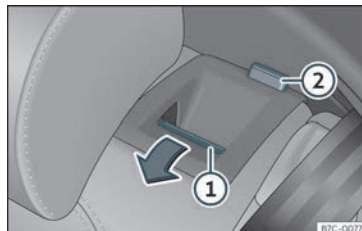

Fig. 106 Rear seat: folding the backrest.
- Press the unlock button»» **Fig. 106**  forwards and at the same time fold the backrest down. The rear seat backrest is not engaged when the red marking of the button  is visible.
The rear seat backrest is not engaged when the red marking of the button **»» Fig. 106 ②** is visible.